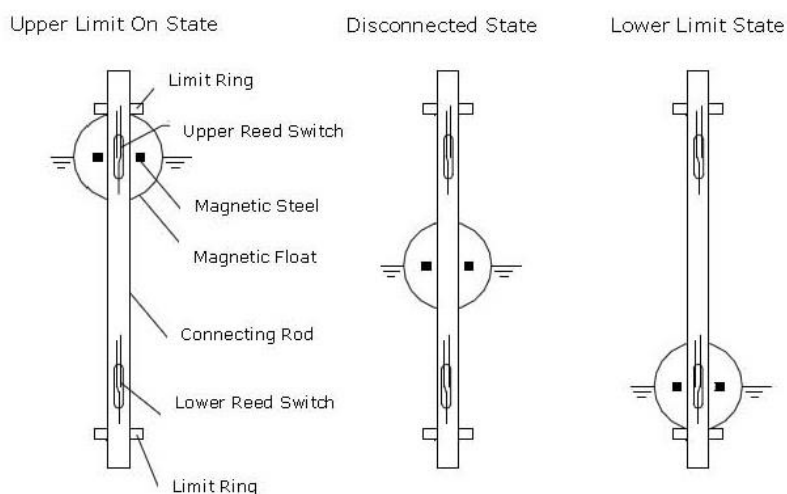

Figure 2
2.2 Operating Principle-Figure 2
4. Dimensional Schematic -Figure 2